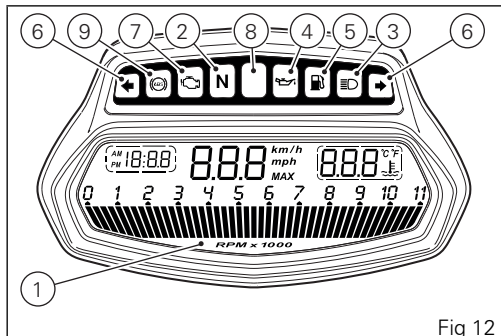

Fig 12
10) ABS LIGHT (AMBER YELLOW) (Fig 12).